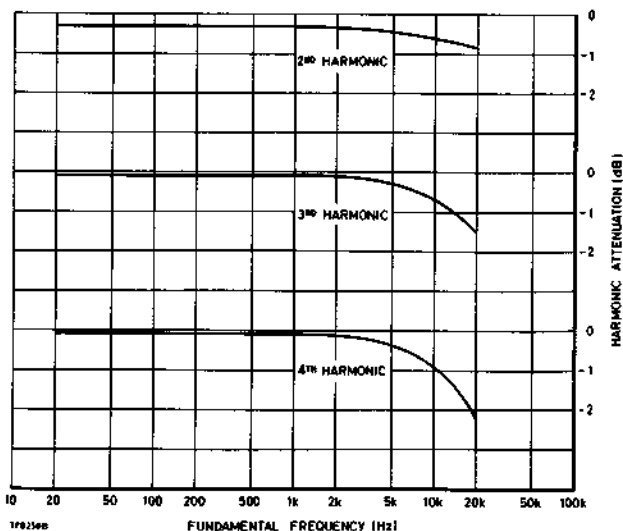
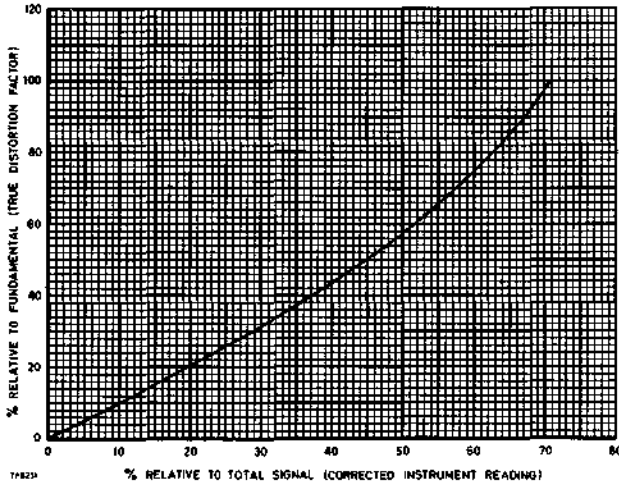

Fig. 2.9 Attenuation of harmonics (100 kHz bandwidth)
Fig. 2.12 Distortion formula conversion
Makes the reading low - see Fig. 2.9. The upper-frequency skirt of the fundamental rejection filter causes a slight attenuation of the lower order harmonics. Harmonics are also attenuated as their frequency approaches the 100 kHz or 20 kHz bandwidth limit; this is naturally more likely to affect the higher order harmonics.
As mentioned in Sect. 2.2 the distortion factor meter measures distortion relative to total signal rather than relative to fundamental. Below 10% distortion the discrepancy is negligible but it becomes large at high distortion. Conversion from indicated to true distortion factor can be made by means of Fig. 2.12.
- (2) Fig. 2.9 shows reading is low by a further 0.3 dB. Therefore, partially corrected reading = -11 to -10.8 dB (= 28 to 28.8%).
- (3) Error due to instrument residual content, i.e., an additional uncertainty of  $\pm 0.025\%$  distortion, is negligible.
- (4) Metering error =  $\pm 2\%$  of 30% (full-scale)  $\pm 1\%$  of 28% =  $\pm 0.88\%$ , say  $\pm 0.9\%$  distortion. Therefore, final corrected reading = 27.1 to 29.7%.
- (5) Formula conversion. The final corrected reading in terms of true distortion factor (relative to fundamental) is given by Fig. 2.12 as 28.5 to 31%.